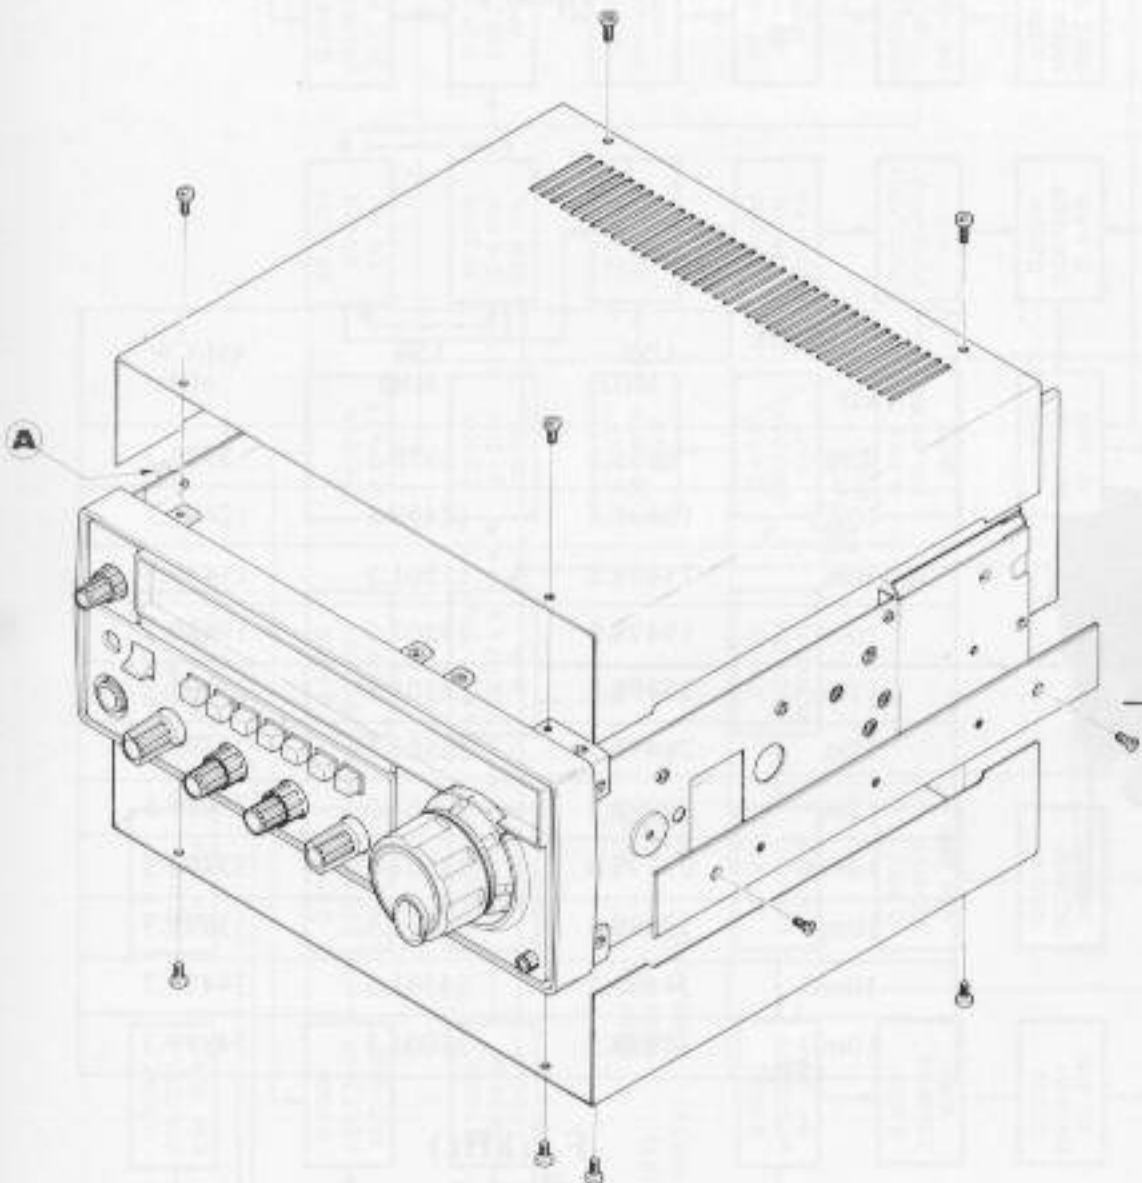

Fig. 1
- (1) Refer to Figure 1, and remove the top cover of the transceiver.